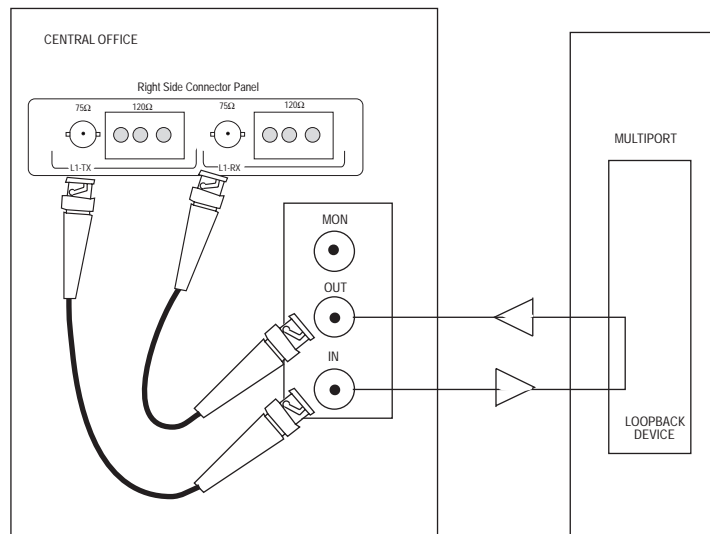

Figure 108 Fractional E1 Testing
- 4) Connect the SunSet to the circuit as shown in Figure 108.